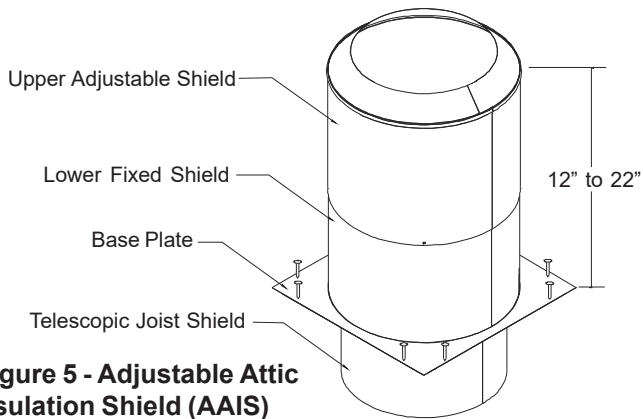

Figure 5 - Adjustable Attic Insulation Shield (AAIS)
5. Adjustable Attic Insulation Shield (AAIS or AIS-R), used wherever a Ceiling Support, Finish Support, or Fire Stop is installed below an open attic (see Figures 5, 7 and 8).
The Adjustable Attic Insulation Shield (AAIS) is to keep insulation from coming into contact with the chimney outer wall. It must be installed where a chimney passes from a lower living space into an open attic space. The AAIS consists of a two part shield (top shield adjust over the lower shield) which allows for a depth of insulation from 12" to 22", plus the depth of the ceiling joist with the telescoping joist shield (see Figure 5). The height of the AAIS is to meet the insulation level requirement of the National Building Code.